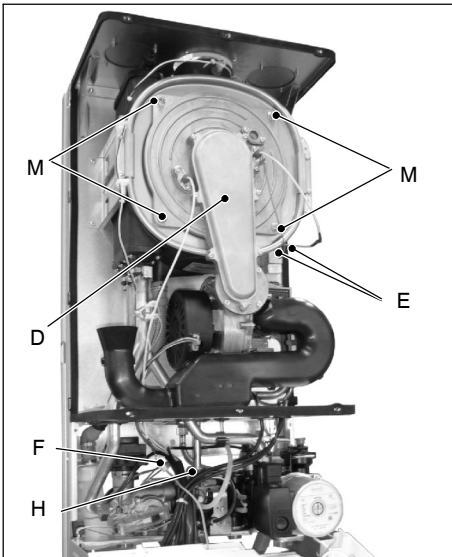

Fig. 9.5
To remove the burner – fan group D (Fig. 9.5):
- 3 Disconnect the connectors of the ignition electrodes E and detection electrode F (Fig. 9.5).
- 5 Unscrew the gas connector H (Fig. 9.5).
- 8 Remove the nuts M (Fig. 9.5) and the burner – fan group D.